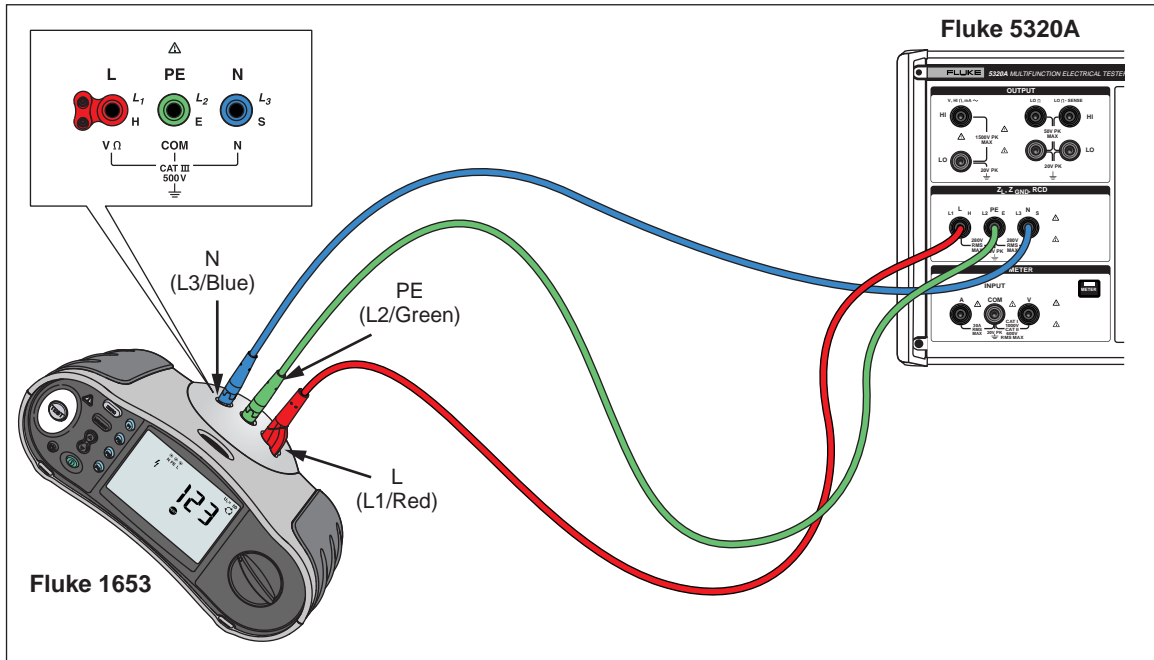

Figure 7-17. RCD Trip Time and Trip Current Calibration
1. Using Figure 7-17, connect the UUT to the Calibrator's **L**, **PE**, and **N** terminals.
1. Using Figure 7-17, connect the UUT to the Calibrator’s **L**, **PE**, and **N** terminals.